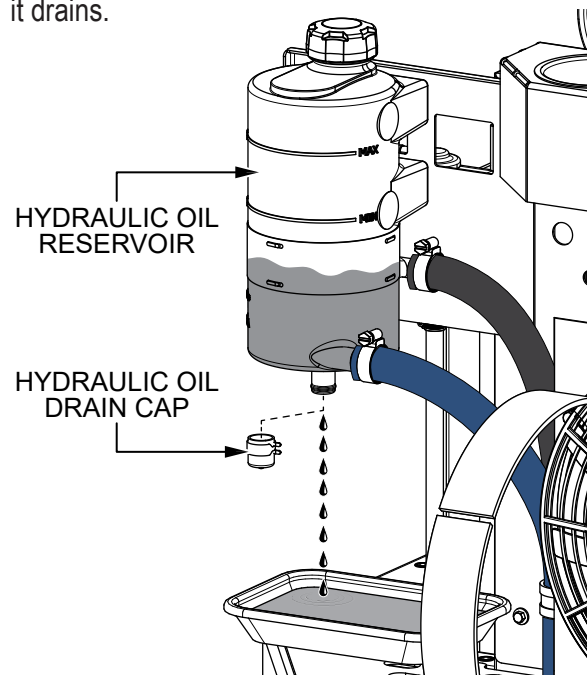

Figure 42. Draining The Hydraulic Oil
1. Place an appropriate container beneath the **hydraulic oil reservoir** (Figure 42) to catch the hydraulic oil as it drains.
2. Remove the **hydraulic oil drain cap** (Figure 42) and allow the hydraulic oil to drain completely from the reservoir. Replace the drain cap when finished.